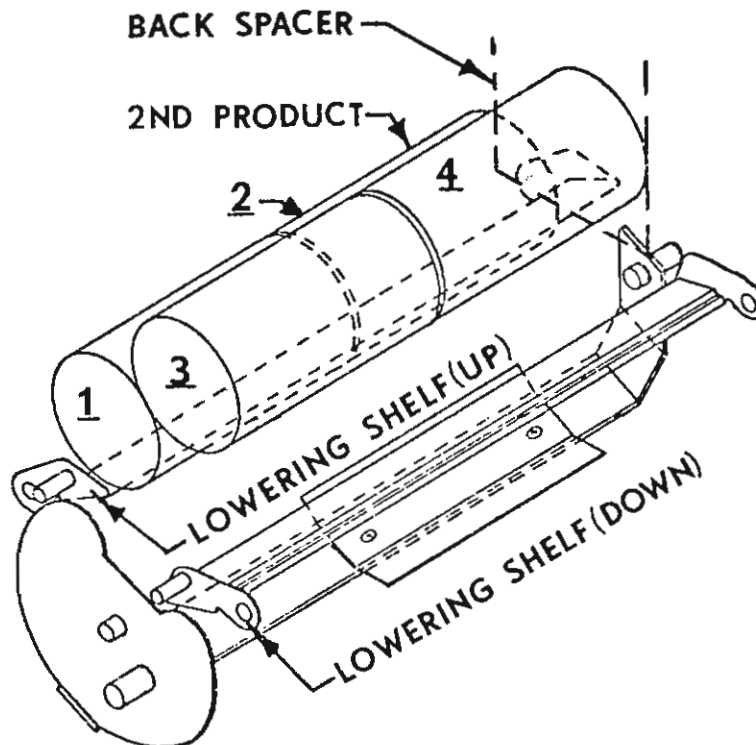

FIGURE 22
3. Cans or Bottles (Fig.22)
4. When loading cans check for 3/8 to 1/2 inch spacing between cans(2 and 4)and the backspacer. Fig.22) Adjust spacer if necessary.